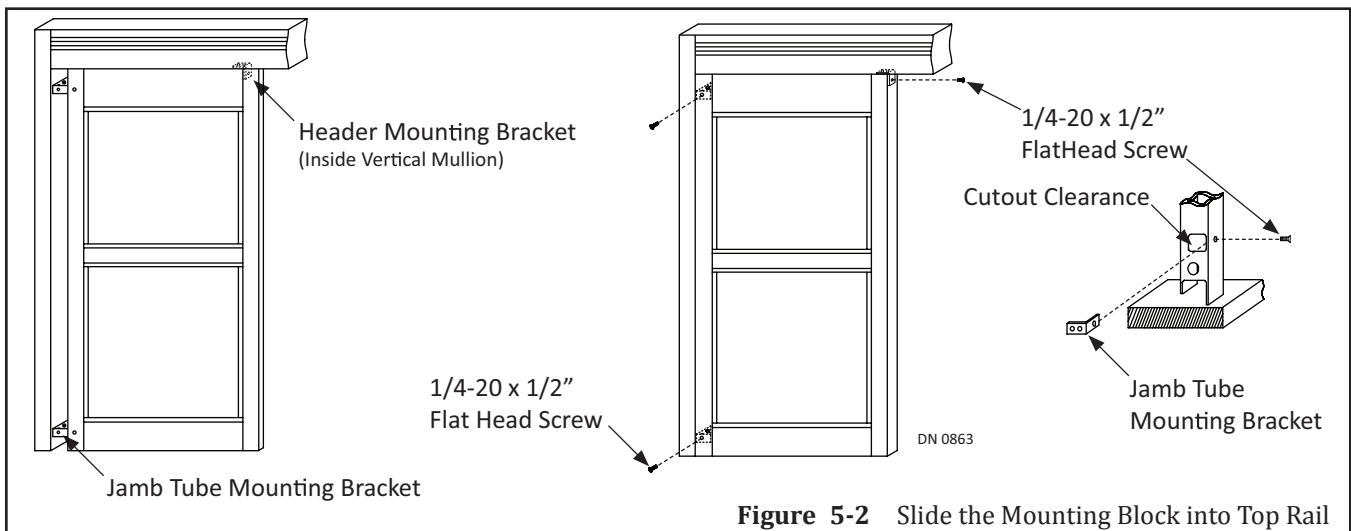

Figure 5-2 Slide the Mounting Block into Top Rail
1. Locate (2) pre-installed Mounting Brackets on the Jamb Tube. Please see Figure 5-2.
3. Go to the Header. Locate (1) pre-installed Mounting Bracket located at the bottom.
7. Obtain (3) 1/4-20 x 1/2 inch Flat Head screws provided by NABCO.
8. Secure all (3) Mounting Brackets to the Fixed Sidelite Panel with 1/4-20 x 1-1/2 inch Flat Head screws. Please see Figure 5-2.